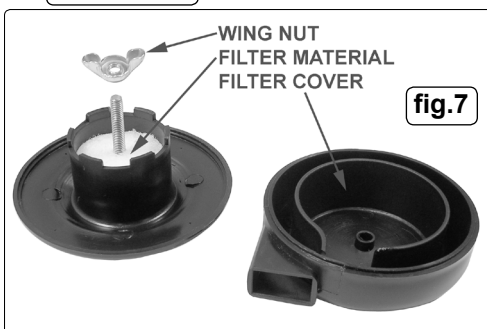

fig.7
- 3.7. Screw the back half of a filter unit into the port openings in each head as shown in (fig.4A and fig.7). Place a filter cover over each threaded rod protruding from the back half of the filter and secure each with a wing nut.
a) Replace air filter. (See fig.7)